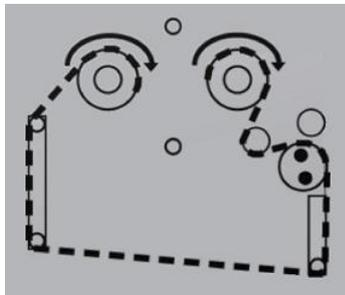

Fig. 8.19 Ribbon path
7. Place new ribbon roll onto the feed spool and direct the ribbon along the path shown in the diagram, see Fig. 8.19.